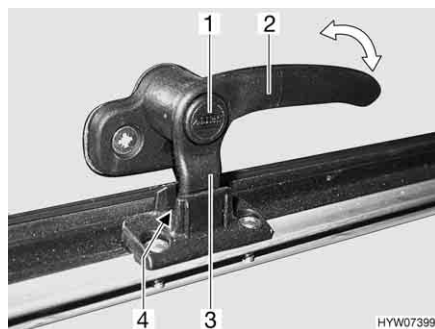
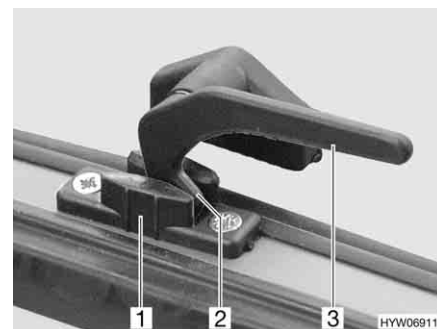

Fig. 83 Catch lever with safety knob in "continuous ventilation" position
Fig. 84 Catch lever in "continuous ventilation" position
- "Continuous ventilation" (Fig. 83 and Fig. 84)
- Press and hold the security button (Fig. 83,1), if present.
- Turn the catch lever (Fig. 83,2 or Fig. 84,3) a quarter turn towards the centre of the window.
- Return the catch lever to its initial position. Move the locking catch (Fig. 83,3 or Fig. 84,2) on the catch lever into the recess of the window catch (Fig. 83,4 or Fig. 84,1).